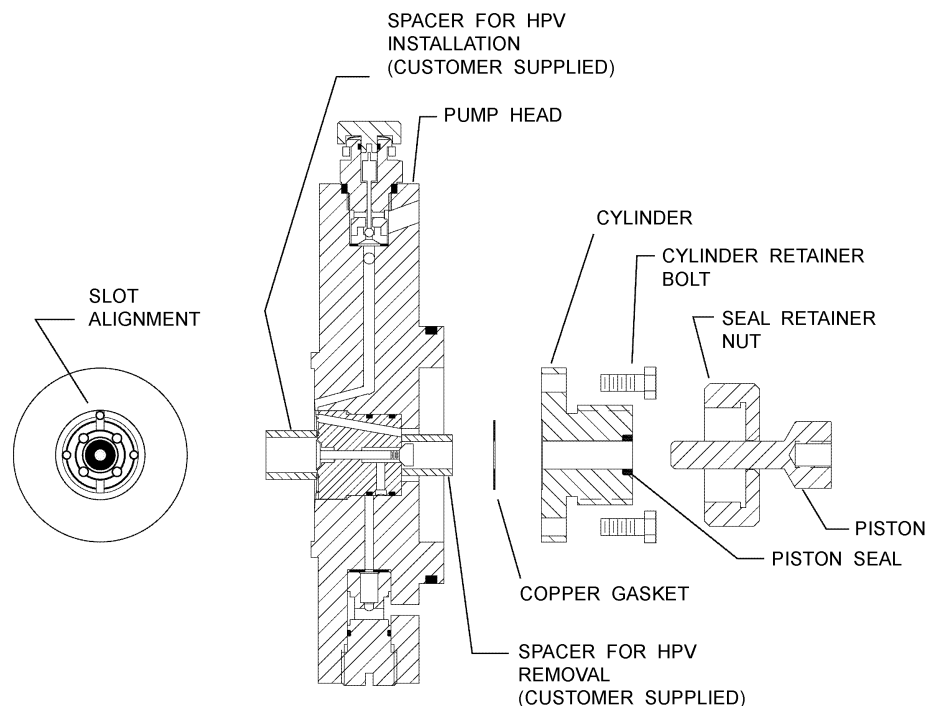

Figure 18
3. Remove the seal retainer nut from the pump head cylinder (refer to **Figure 18**).
4. Remove the four-socket head caps crews that retain the cylinder to the pump head (refer to **Figure 18**) and remove the cylinder, taking care to not lose the copper gasket.
5. Select a socket or spacer which fits into the cylinder side bore of the pump head and also clears the rear poppet of the HPV (refer to **Figure 18**).